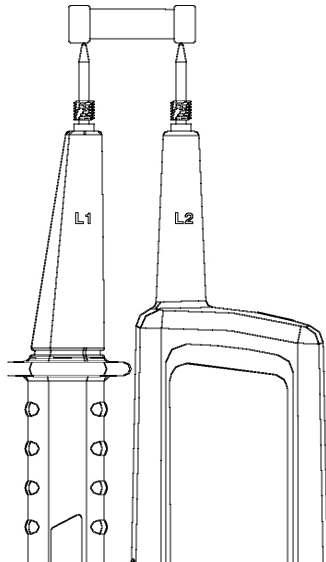

Fig. 7: Continuity test
2. Connect the L1 and L2 probes to the object under test (see Fig. 7)